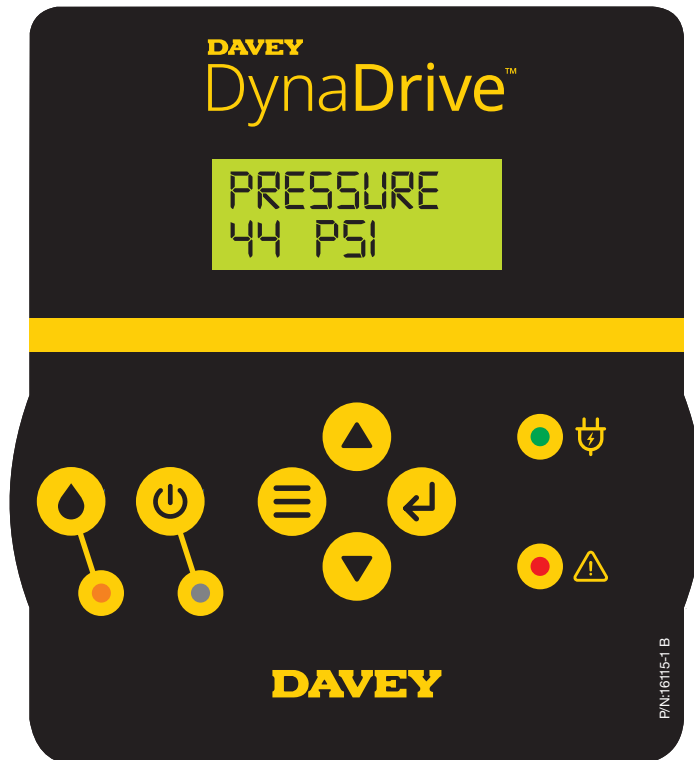

Figure 6.11
- Once you've reached your new set point, see figure 6.11;